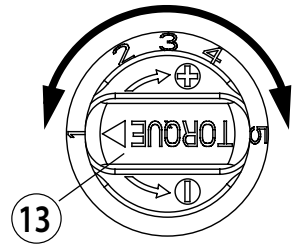

FIG. 3
3.3) Torque adjustment (Ref. to Fig. 3)